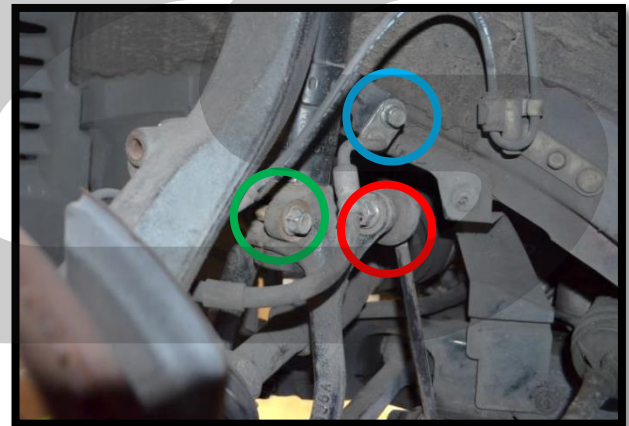

Figure 2b
b) Free the brake line from the strut by removing the 12mm bolt (blue circle in Figure 2b).
c) Remove the 14mm nut fastening the sway bar end link to the strut bracket (red circle in Figure 2b).
d) Remove the 14mm bolt pinching the strut bracket onto the base of the strut (green circle in Figure 2b and Figure 2c).
- j) Re-secure the brake line using the 12mm bolt as shown with blue circle in Figure 2b.
- k) Attach the end link and reinstall the 14mm nut (red circle in Figure 2b). Tighten to 35-40ft lbs.